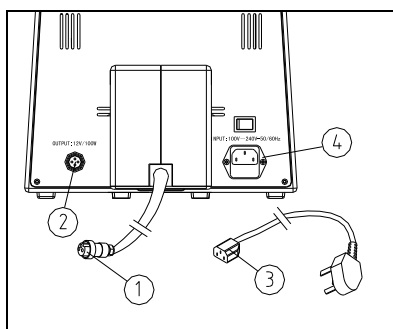

Fig.10
(1) Make sure the main switch is at “O” (OFF) position.
(2) Match the gap of the lower light source aviation plug ① to the gap of the aviation socket ②, and insert it to the bottom. (See Fig. 10)
(3) Insert one end of power cord ③ into the power socket ④ of the microscope.
(4) Insert the other end of power cord into the power supply socket.